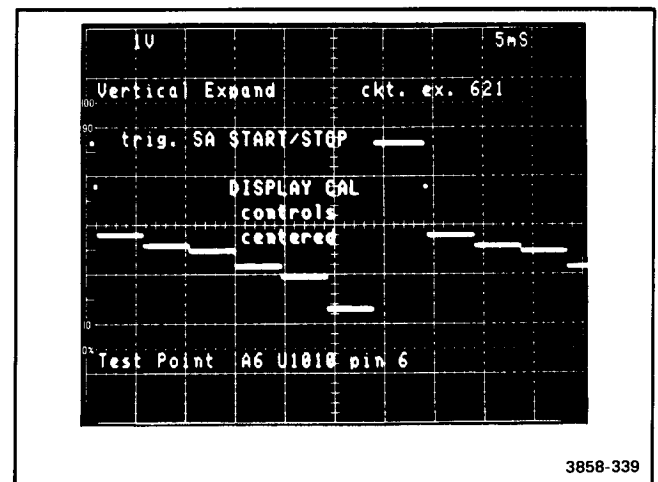

Figure 3-19. Waveform for Vertical Expand test.
- 35) Vertical Expand (621). If this test fails, place the Display Board on an extender and run circuit exercise 621. Use an oscilloscope to troubleshoot the Vertical Expand. Waveform Figure 3-19 is a typical output of this test. The SA Start/Stop line provides a stable oscilloscope trigger while using this test for troubleshooting.